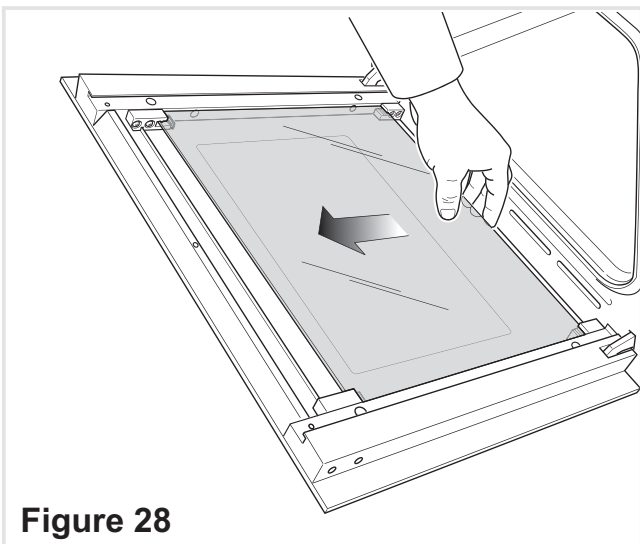

Figure 28
- Gently unlock the middle pane of glass from the bottom clamps by moving it as in fig. 28.